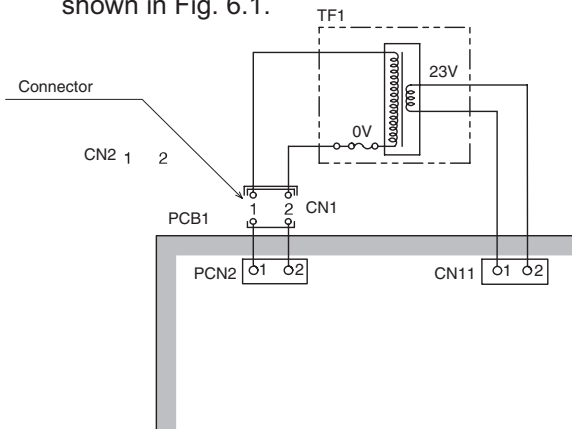

Fig. 6.1 Connector of Transformer of Outdoor Unit
- In case that the power source is 240V, change CN1 (connector) to CN2 of transformer in the electrical control box as shown in Fig. 6.1.